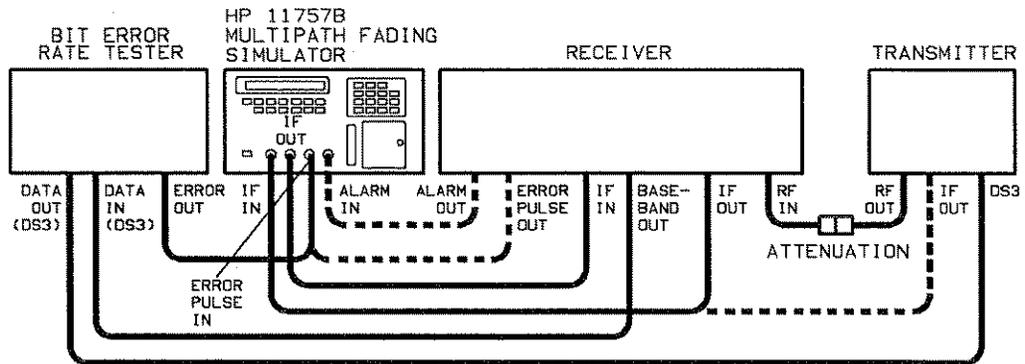

Figure 1-1. Static M-Curve Measurement Test Setup
4. Connect the Fader, BERT and Digital Radio as shown in figure 1-1.